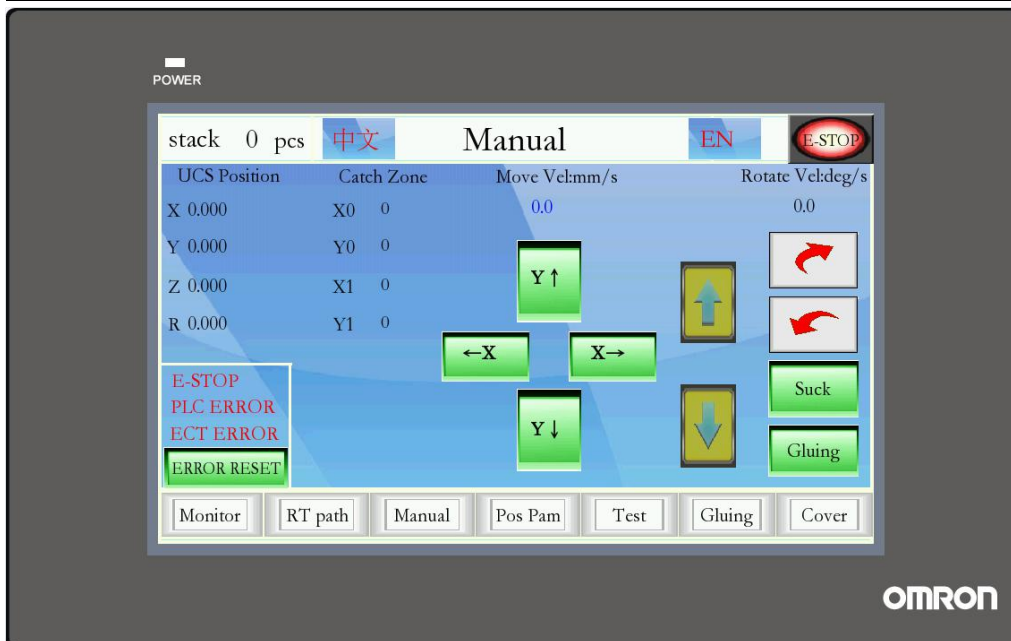

Figure 8
8. As shown in Figure 8, this page for manual (jog operation) correction: